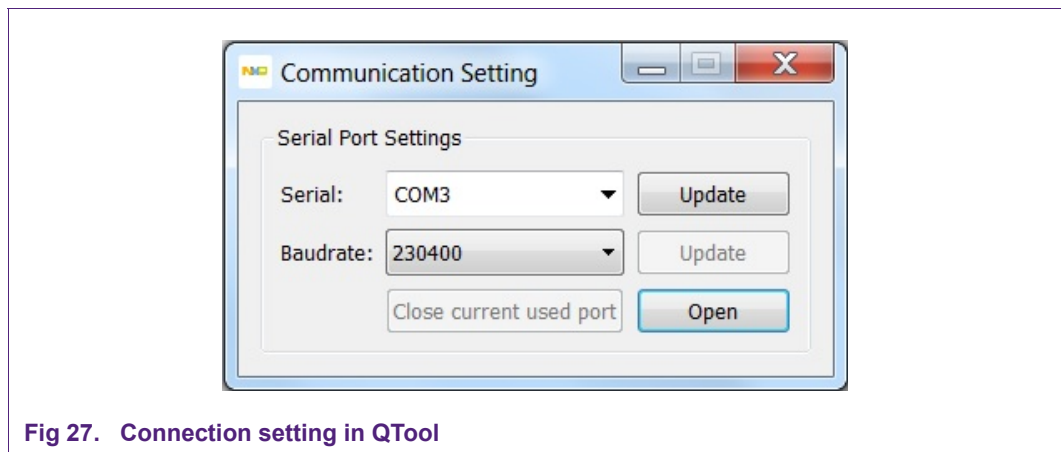

Fig 27. Connection setting in QTool
Step 2: Start QTool from QN902x Studio start page. Figure 27 shows the message that pops up for communication setting.